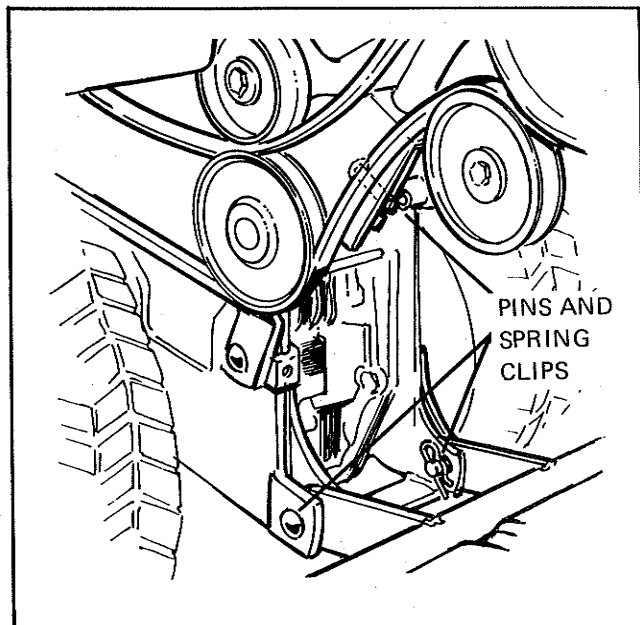

Figure 3.
4. See Figure 3. Move the tractor lift to the raised position. Connect the revitalizer frame assembly to the tractor with 2 pins and spring clips.